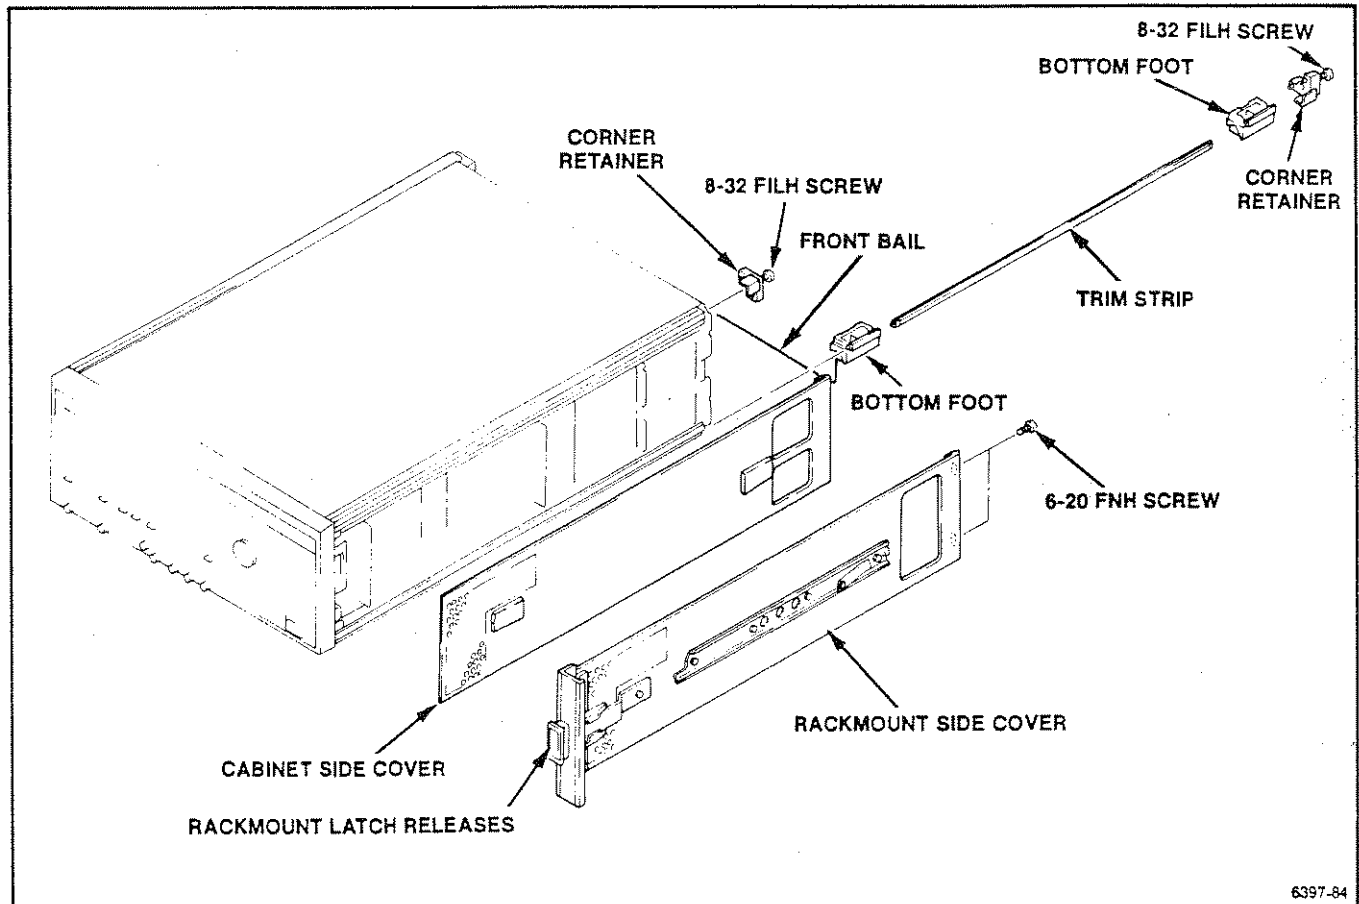
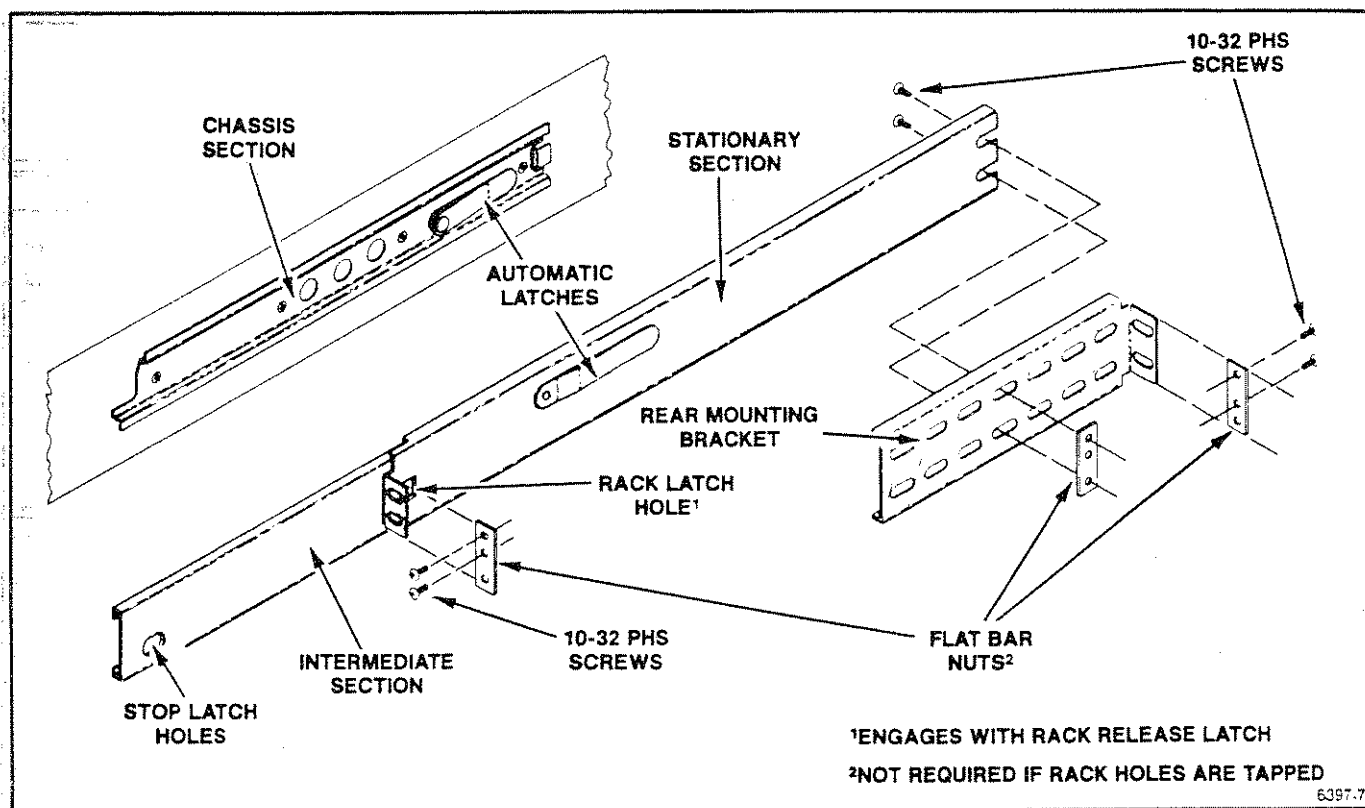

Fig. D-8. Cabinet-to-rackmount conversion.
Fig. D-9. Rackmount assembly sections.
The rackmount kit contains new Rackmount Side Covers (Fig. D-8), two rackmount assemblies, and mounting hardware. Each rackmount assembly consists of three sections: a Chassis Section, an Intermediate Section, and a Stationary Section (Fig. D-9). When the kit is received, the Chassis Section of each assembly is already mounted on its associated Rackmount Side Cover, and the remaining two sections are assembled and wrapped together.
1. Remove the left and right Cabinet Side Covers (See removal procedure earlier in this section. Also see Fig. D-8.
2. Remove the Bottom Feet (Fig. D-8) at each of the four corners of the bottom panel. They are removed by sliding them toward the rear of the instrument. Remove the front bail with the front feet.
3. Remove the top and bottom trim strips on both sides (Fig. D-8). They are removed by sliding them toward the rear of the instrument.
*Remember the left side is identified when facing the front panel of the instrument. To identify the left Rackmount Side Cover, note that (1) when the Chassis Section is installed, the small notch at the front of the section is located at the top, (2) the Automatic Latch is located closest to the bottom of the section when installed (Figs. D-8 and D-9), and (3) the screw holes in the Rackmount Handles are at the top.*
*Remember the right side is identified when facing the front panel of the instrument. To identify the right Rackmount Side Cover, note that (1) when the Chassis Section is installed, the small notch at the front of the section is located at the top, (2) the Automatic Latch is located closest to the bottom of the section when installed (Figs. D-8 and D-9), and (3) the screw holes in the Rackmount Handles are at the top.*